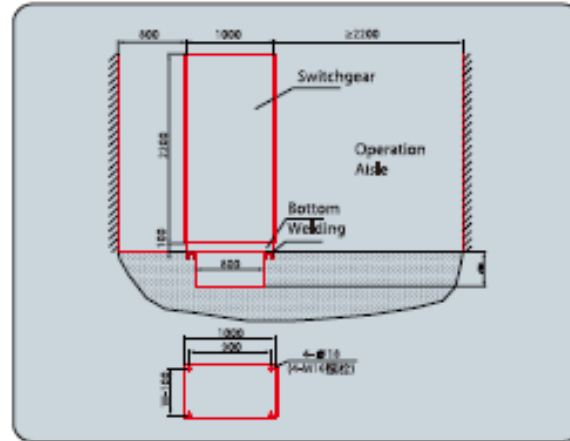
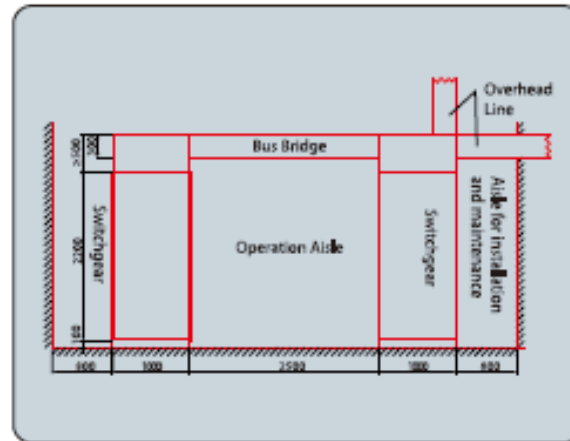

Fig.13. Installation
Fig.14. Installation of Overhead Incoming Line and Busduct
- Bottom of the product could be fixed to ground through welding or by 4-M16 screw (Fig.13). The side between cubicles is fastened by 8-M8×20 hexagon socket bolts.
- MLS-5.0/600 should be installed off the wall with a distance larger than 800mm (Fig.13, Fig.14).
- MLS-5.0/600 should be installed against wall. However, a distance larger than 300mm is recommended (Fig.13, Fig.14).